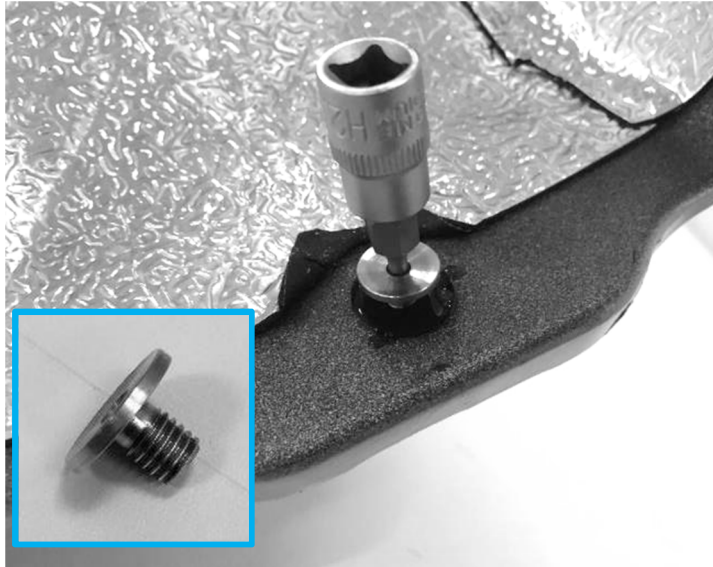

FIG. 13
17. Screw in the screw from the conversion kit (blue box) by hand using the included 2.5 mm socket. Then finish tightening it with a torque wrench to 2 Nm / 17.70 in-lb (FIG. 13).